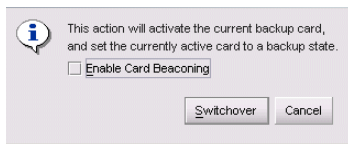

Figure 21 Switchover CTP dialog box
- **Switchover**—Click this option to display the Switchover CTP dialog box as shown in Figure 21. Click **Switchover** to switch operations from the active card to the backup card. When switchover occurs, the green LED illuminates on the backup CTP card to indicate that it is active.
- **Switchover**—Click this option to display the Switchover SBAR dialog box, which is similar to the Switchover CTP dialog box shown in Figure 21. Click **Switchover** to switch operation from the active card to the backup card. When switchover occurs, the green LED illuminates on the backup SBAR card to indicate that it is now the active card.